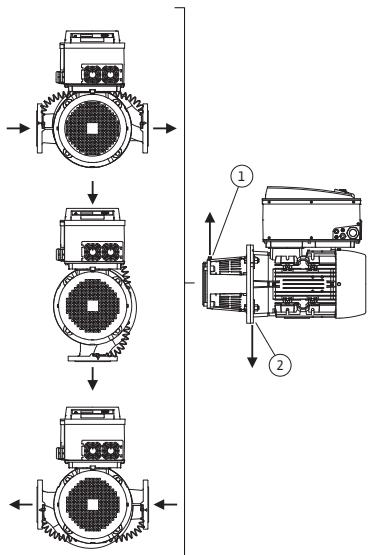
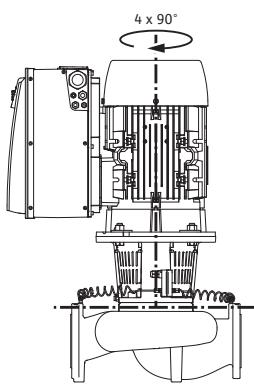

Fig. 18: Permitted installation positions with horizontal motor shaft
Fig. 19: Permitted installation positions with vertical motor shaft
The permitted installation positions with horizontal motor shaft and electronic module facing up (0°) are shown in Fig. 18. The permissible installation positions with electronic module mounted on the side ($+/- 90^\circ$) are not shown. Any installation position is allowed except for “electronic module facing down” (-180°). The venting of the pump is only ensured when the air vent valve is pointing upwards (Fig. 18, Item 1). Only in this position (0°) can condensate be directed away via existing drilled holes, pump lantern and motor (Fig. 18, Item 2). Remove the plug from the motor flange.
The permitted installation positions with horizontal motor shaft are shown in Fig. 19. All installation positions except for “motor facing down” are allowed.
- The air vent valve at the lantern (Fig. 6, Item 1.31) always has to be pointed upwards if the motor shaft is horizontal (Fig. 6). If the motor shaft is vertical, any orientation is permitted. See also Fig. 18: "Permitted installation positions with horizontal motor shaft" on page 80 and Fig. 19: "Permitted installation positions with vertical motor shaft" on page 80.